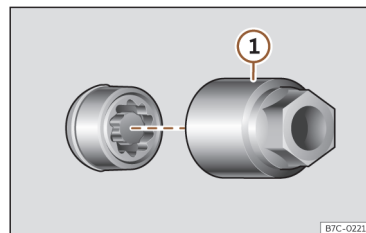

Fig. 194 Anti-theft wheel nut with cap and adapter.
- Insert the special adapter >>> **Fig. 194 ①** (vehicle tools >>> page 288) onto the anti-theft wheel nut and push it on as far as it will go.